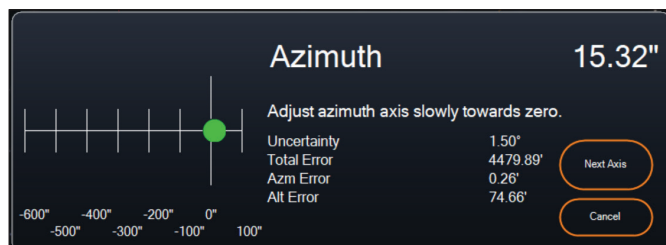

Fig. 18: Azimuth Axis Adjustment window during polar alignment in CPWI.
- c. Lift and rotate the entire tripod and mount so that the right ascension (RA) axis points approximately due North. The mount’s position doesn’t need to be perfect. Aim within about 5° due North so the mount is within the range of the mount’s azimuth fine adjustment knobs. Use a free compass app for your smartphone if you need help finding North.
4. After SSAG has obtained its polar alignment references, it will display the azimuth axis adjustment window (Fig. 18). Slowly fine-adjust your mount’s azimuth until the “Azm Error” is less than two arcminutes.